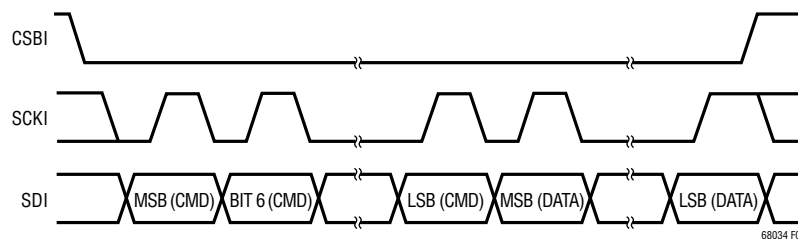
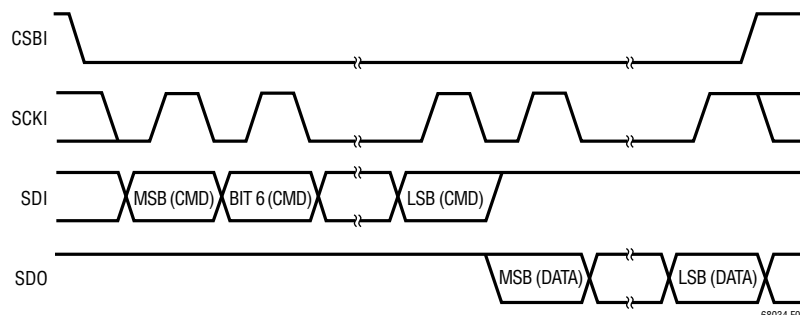

Figure 2. Transmission Format (Write)
Figure 3. Transmission Format (Read)
The LTC6803 also contains circuitry to balance cell voltages. Internal MOSFETs can be used to discharge cells. These internal MOSFETs can also be used to control external balancing circuits. Figure 1 illustrates cell balancing by internal discharge. Figure 3 shows the S pin controlling an external balancing circuit. It is important to note that the LTC6803 makes no decisions about turning on/off the internal MOSFETs. This is completely controlled by the host processor. The host processor writes values to a configuration register inside the LTC6803 to control the switches. The watchdog timer on the LTC6803 can be used to turn off the discharge switches if communication with the host processor is interrupted.
**Data Transfers:** Every byte consists of 8 bits. Bytes are transferred with the most significant bit (MSB) first. On a write, the data value on SDI is latched into the device on the rising edge of SCKI (Figure 2). Similarly, on a read, the data value output on SDO is valid during the rising edge of SCKI and transitions on the falling edge of SCKI (Figure 3).